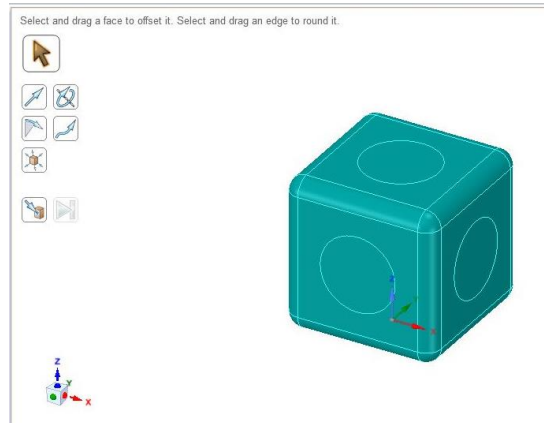

Fig. 2-14 Draw another circle
Step 1: Draw a cube with dimensions of 20mms, as shown in Fig. 2-14.